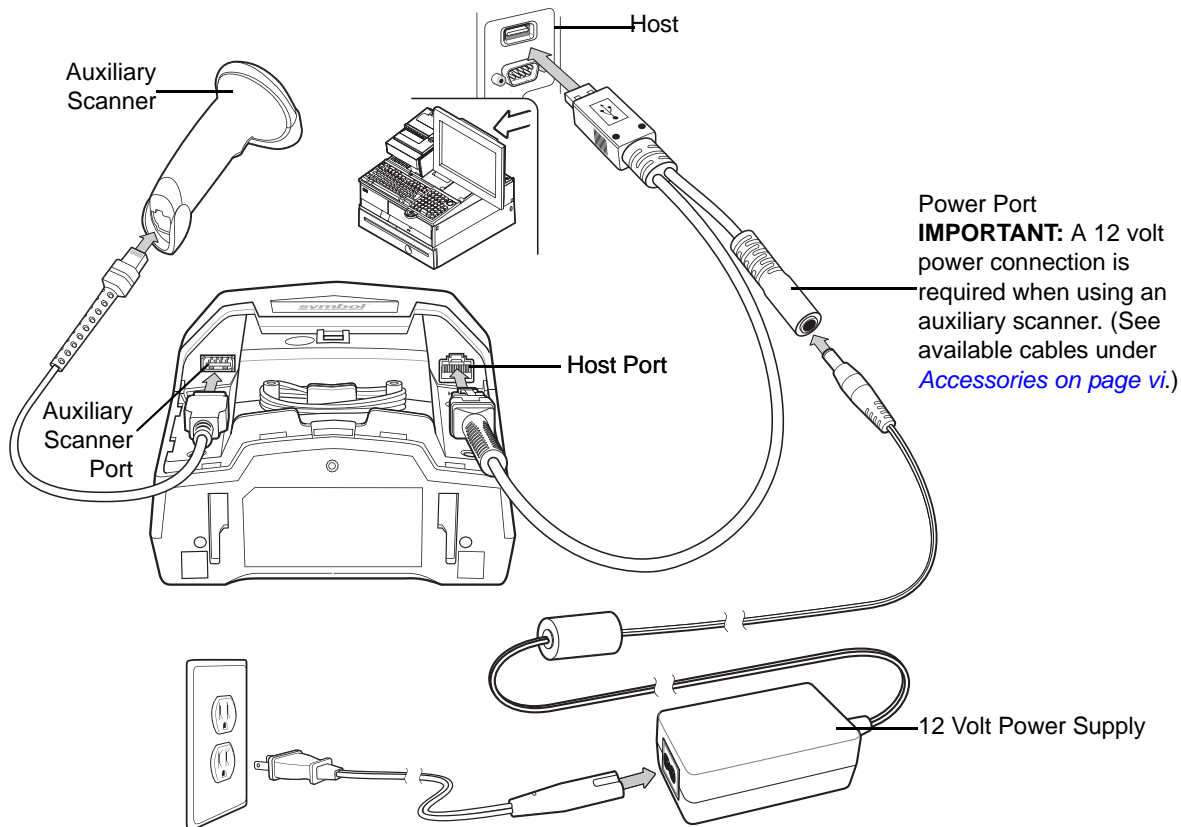

Figure 6-2 USB Connection With Optional Auxiliary Scanner - 12 Volt Power Supplied Externally
- b. Connect a 12 volt external power supply to the host cable as shown in Figure 6-2, or connect a 12 volt Power Plus host connector.